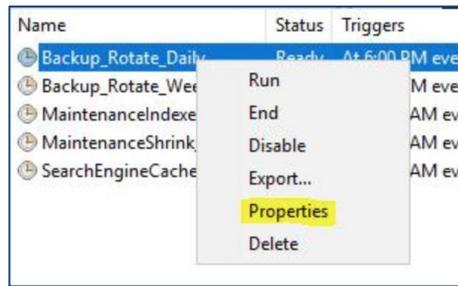

Figure 11. Windows Task Scheduler – PACS daily/weekly backup tasks (context menu) window
1. Right click on the task name and from the *context menu* navigate to **Properties** as per Figure 11.